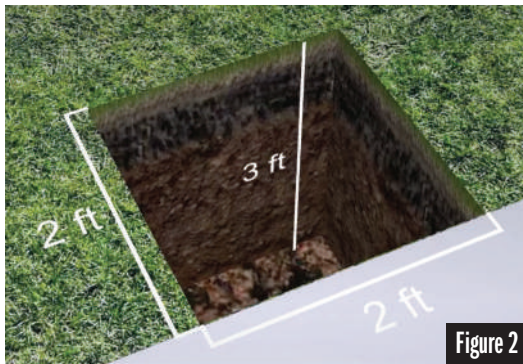

Figure 2
STEP 3: Remove the frame and dig a square hole to appropriate depth and dimensions shown in Figure 2.